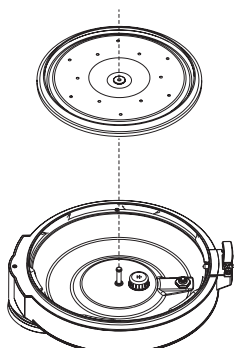

Fig. 22
Close the lid. Before closing check if the seal is properly inserted ⑨ and slightly turn the anti-locking shield ⑦, to make sure that it is properly attached to the steel ring. Close the lid by turning it counterclockwise and turn until you hear "snap" (fig. 22, 23).